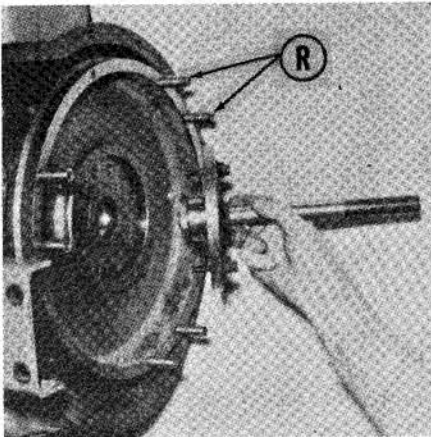
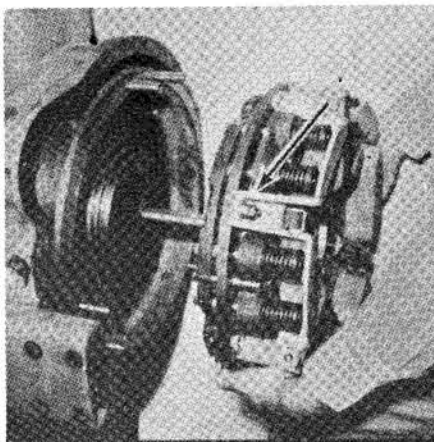
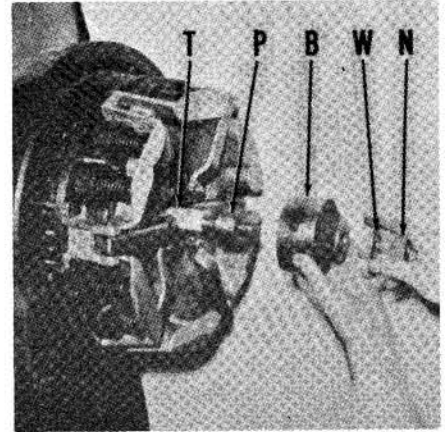

Fig. 116—Attaching spindle and risers (R) of clutch assembly and adjustment fixture to engine flywheel.
Fig. 117—Mounting dual clutch assembly on spindle and risers; refer to Fig. 116. Cover is bolted (arrow) to center driving plate at three equally spaced points.
Fig. 118—Installing transmission disc pilot (T), PTO disc pilot (P), gage block (B), washer (W) and nut (N) to compress release levers.
Engine flywheel has two  $\frac{5}{16}$ -inch tapped holes 180° apart which are used to attach clutch fixture base plate and spindle as shown in Fig. 116. Remove the pilot bearing, one pair of flywheel retaining cap screws and the locking plate covering one of the tapped holes, then install spindle as shown. Install the six risers (R) spaced as shown in Fig. 116. Mount assembled clutch unit on the six risers as shown in Fig. 117 and secure clutch to risers with six of the clutch to flywheel retaining cap screws. Refer to Fig. 118 and slide the transmission clutch disc pilot (T), PTO clutch disc pilot (P) and the gage block (B), with flat face of gage block towards release levers, onto the adjusting fixture spindle. Then install washer (W) and nut (N), tightening nut until the clutch discs are released. Refer to Fig. 119 and center the clutch discs with one screwdriver while pushing pilots
Fig. 119—With release levers compressed, align clutch friction discs with one screwdriver while pushing pilots (T and P—Fig. 118) into place with second screwdriver.